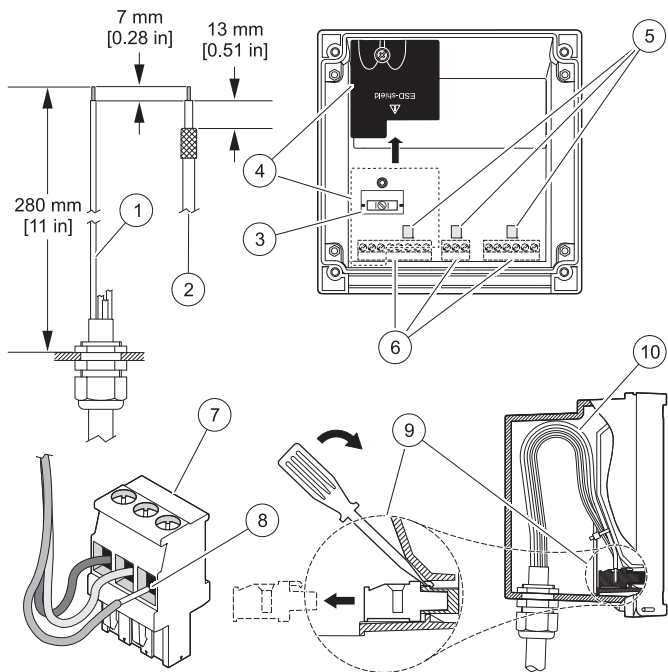

Figure 3 Wire preparation and insertion
2. Use the screwdriver as a lever to lift the terminal block off the connectors (see Figure 3).